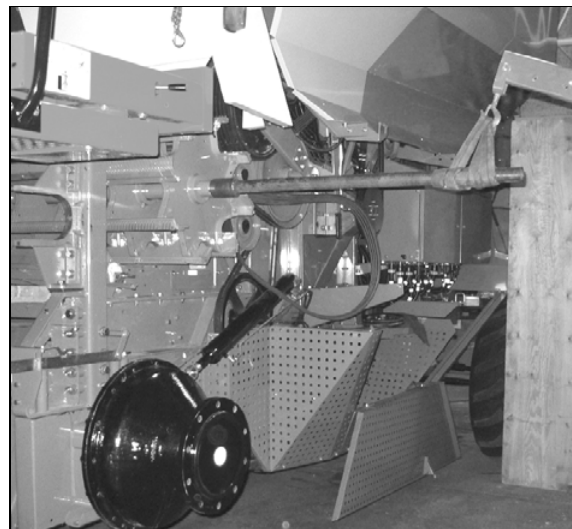

Fig. 18
**Note:** Slide a tube with a suitable diameter in over both shaft ends. Sink a pointed screw into the tube to prevent it from sliding out (Fig. 18).